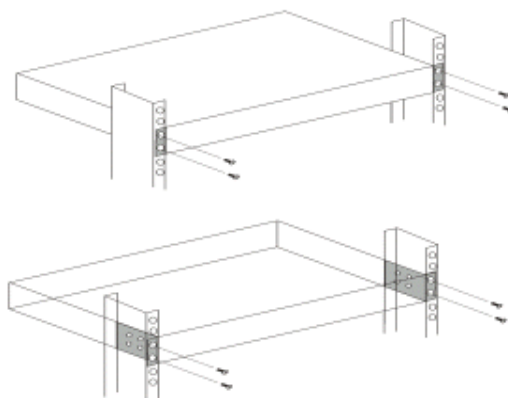

Figure 2-1. FOS-5128 Switch Rack-mounting
Step 2. Align the mounting holes in the brackets with the desired holes in the rack, and insert screws through each bracket and into the rack. (See Figure 2-1)